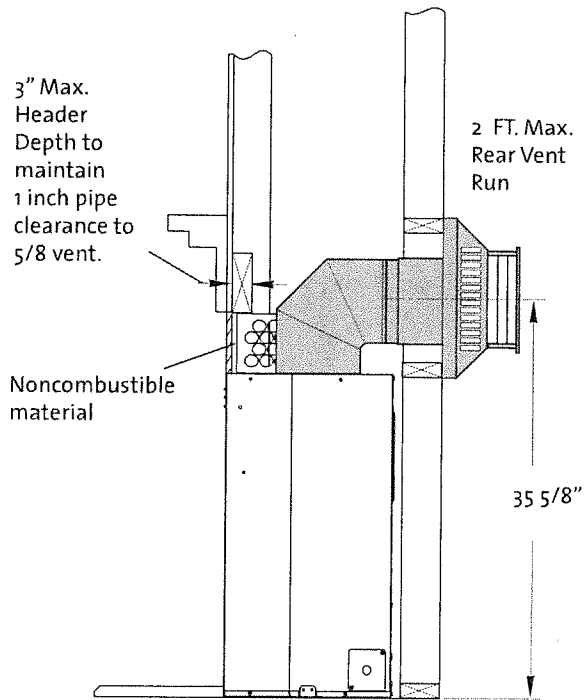

Figure 11.
- 5/8 vent may be directed to a horizontal termination with an 90° elbow straight off the top vent collar. See fig 11. **The maximum horizontal run directly off the top collar is 2 feet. One 90° or two 45° elbows may be used.**